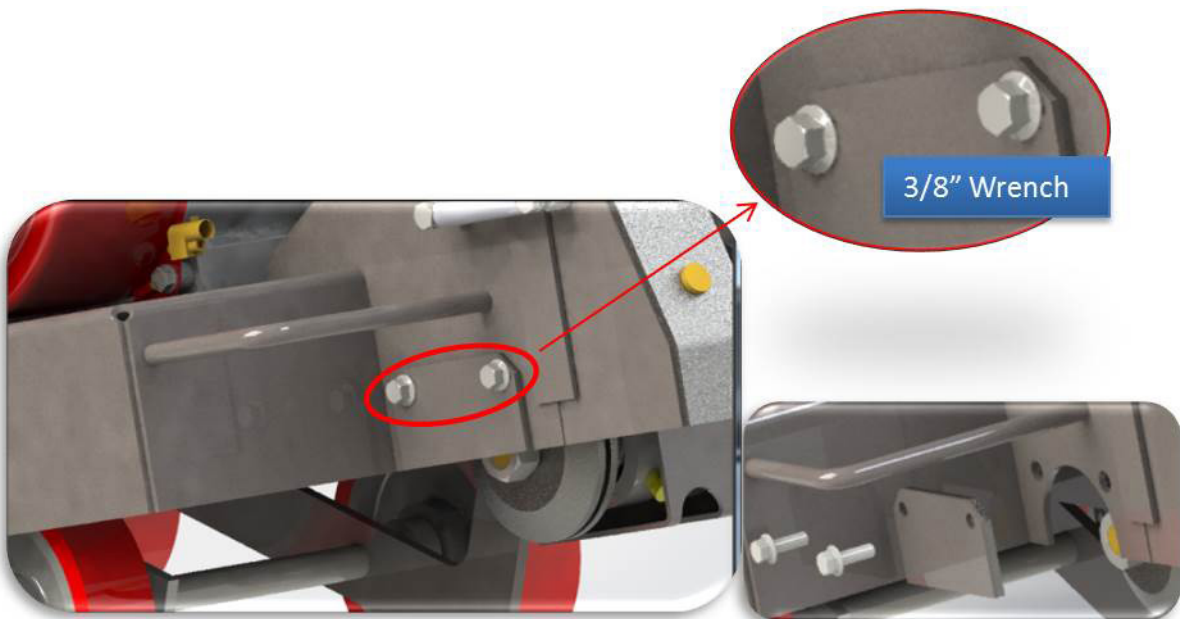

Figure 4. Flange Cover Removal
2. Remove the flange cover (Figure 4).